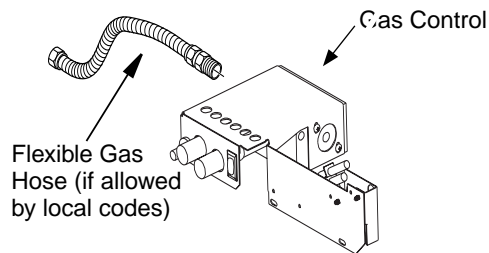

Figure 7 - Attaching Flexible Gas Hose to Gas Regulator
1. Apply pipe joint sealant lightly to male threads of gas fitting (not provided). Connect approved flexible gas hose to inlet side of gas control (see Figure 7).